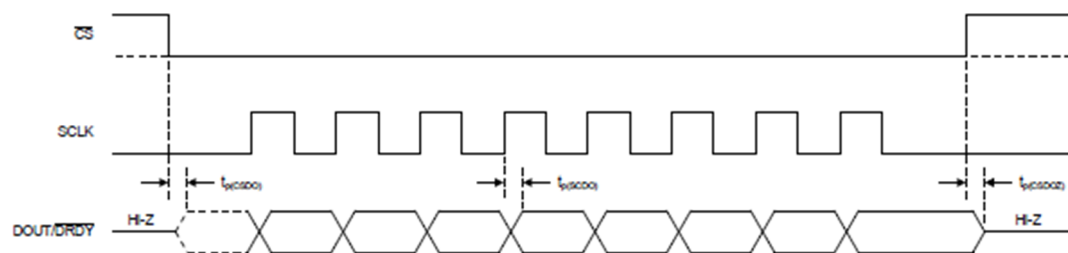

Figure 7 Serial Interface Switching Characteristics
It is important that the VT-DRM(S) is the last component to be hand soldered onto a circuit board. If a different soldering profile is required, please contact us at [support@varadis.com](mailto:support@varadis.com). VT-DRM(S) can be soldered directly on the customer PCB (treated as SMD) or via standard through hole 10-pin header connector with a pitch of 2.54 mm; example (Mfr. No: 1-826629-0). Recommended dimensions for solder pad layout are given in Figure 7.